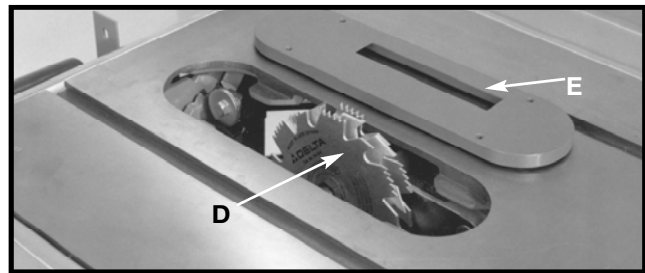

Fig. 55
2. Attach the dado head set (D) Fig. 55, to the saw arbor.
CAUTION THE ACCESSORY DADO HEAD SET TABLE INSERT (E) FIG. 55, MUST BE USED IN PLACE OF THE STANDARD TABLE INSERT.